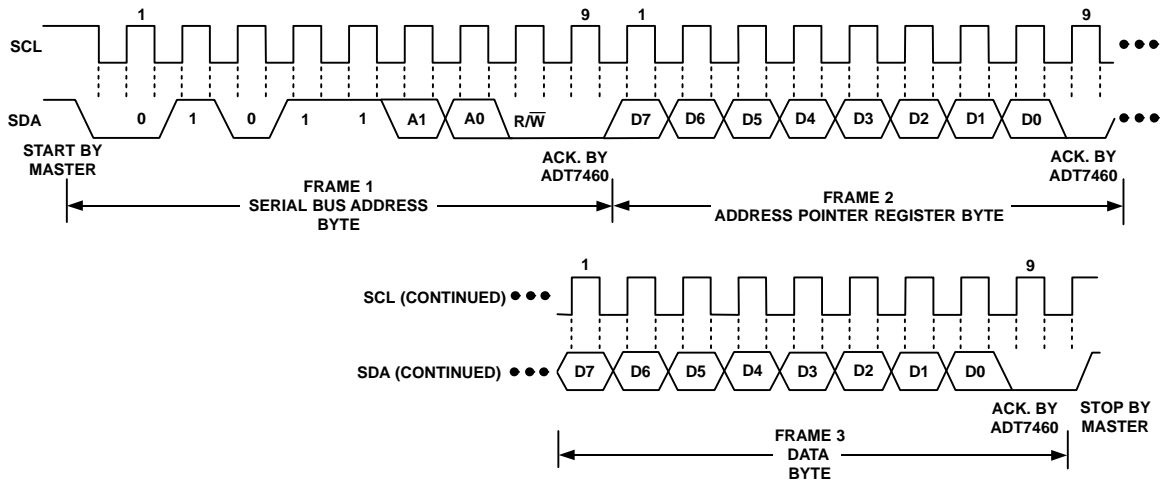
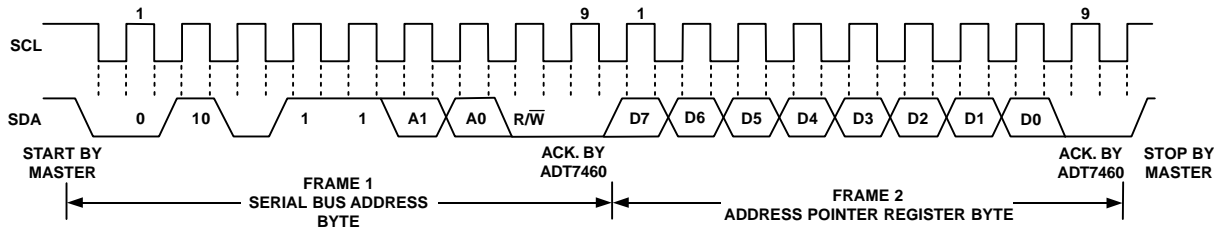
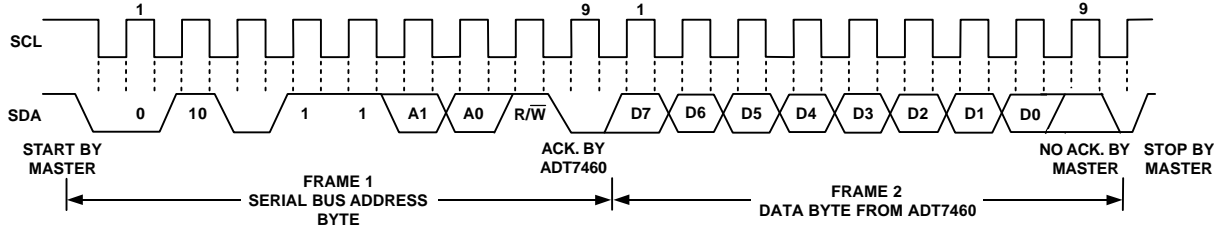

Figure 17. Writing a Register Address to the Address Pointer Register, then Writing Data to the Selected Register
Figure 18. Writing to the Address Pointer Register Only
Figure 19. Reading Data from a Previously Selected Register
This is illustrated in Figure 17. The device address is sent over the bus followed by R/\bar{W} being set to 0. This is followed by two data bytes. The first data byte is the address of the internal data register to be written to, which is stored in the address pointer register. The second data byte is the data to be written to the internal data register.
- ◆ If the ADT7460's address pointer register value is unknown or not the desired value, it is first necessary to set it to the correct value before data can be read from the desired data register. This is done by performing a write to the ADT7460 as before, but only the data byte containing the register address is sent because data is not to be written to the register. This is shown in Figure 18. A read operation is then performed, consisting of the serial bus address, R/W bit set to 1, followed by the data byte read from the data register. This is shown in Figure 19.
- ◆ If the address pointer register is known to be already at the desired address, data can be read from the corresponding data register without first writing to the address pointer register, so Figure 18 can be omitted.
In Figure 17 and Figure 19, the serial bus address is shown as the default value 01011(A1)(A0), where A1 and A0 are set by the address select mode function previously defined.